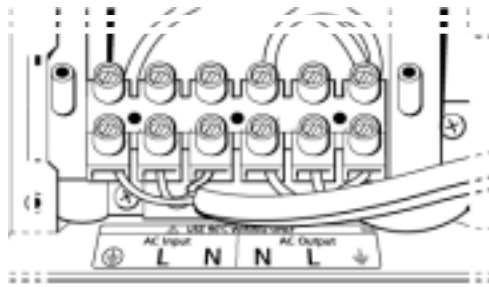

Figure 6 AC In and AC Out: Hardwiring Completed
A detailed view of the RS2000 wiring compartment with the AC compartment panel removed is shown in Figure 6. The terminal block is used to hardwire the AC input and AC output connections.
8. Insert the line wire into "L", the neutral wire into "N", and the ground wire into ground , as shown in Figure 6 on page 23 . Observe the colour codes described in Table 4.
6. Insert the line wire into "L", the neutral wire into "N", and the ground wire into ground \perp , as shown in Figure 6. Observe the colour codes described in Table 4.